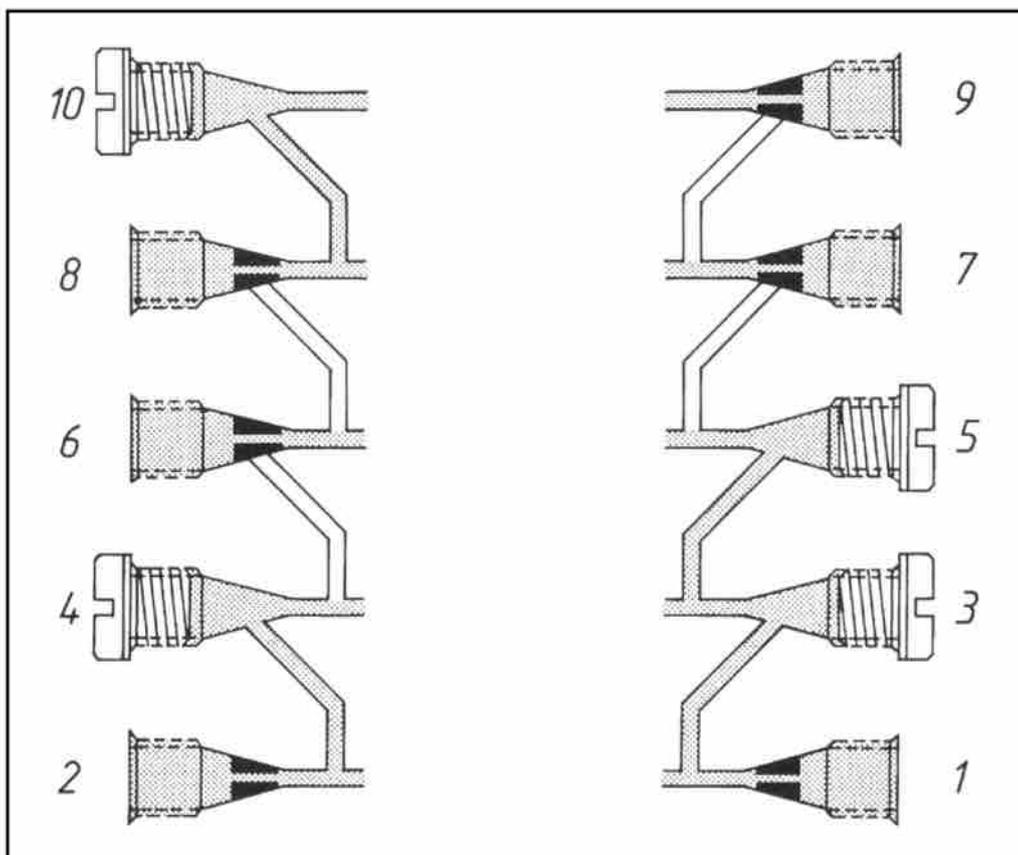

Fig. 28 - Single, double and triple amount of lubricant for distributor SSV 10.
- In Fig. 28, output 10 is plugged. The amount of lubricant that should have come out here goes through the connection channel and out through output 8.
- outputs that are above the output from which lubricant comes out, etc. See Fig 28 outputs 1, 3 and 5